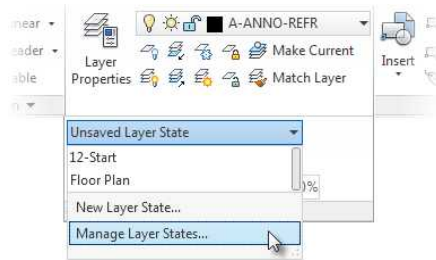

FIGURE 13.16: Accessing the Layer States Manager from the Ribbon
2. Expand the Layer State drop-down list from the Layers panel on the Home tab, and select Manage Layer States (see Figure 13.16).